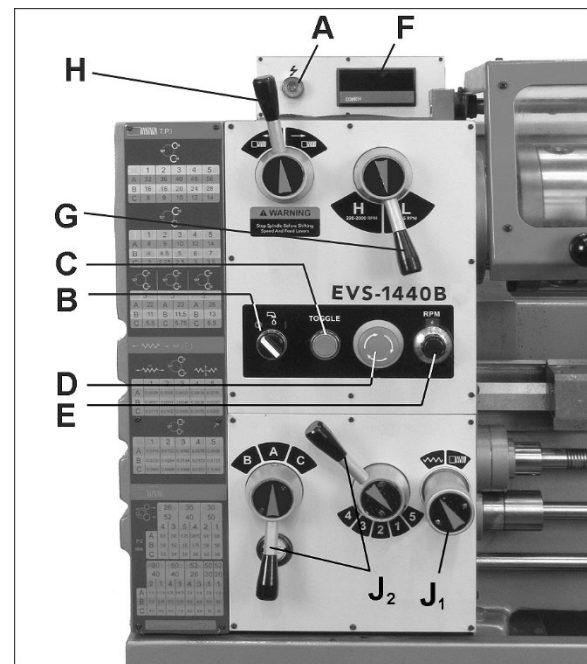

Figure 9-1
Power Indicator Light (A, Figure 9-1). Illuminates whenever lathe is receiving electrical current.
Coolant On-Off Switch (B, Figure 9-1). Activates coolant pump.
Jog/Toggle Button (C, Figure 9-1). Quickly press and release to briefly rotate spindle.
Emergency Stop Button (D, Figure 9-1). Shuts down all machine functions. NOTE: Lathe will still have power. Twist button clockwise to reset.
Variable Speed Dial (E, Figure 9-1). Adjust speed based upon range selected. Dial may be turned while spindle is rotating. Speed is displayed on LED screen (F).
4. **Speed Range Selector (G, Figure 9-1):** Select high or low range.
5. **Feed Direction Lever (H, Figure 9-1):** Select direction of feed. Center position is neutral.
6. **Lead and Feed Selector Levers (J₁/J₂, Figure 9-1):** Used conjunctively to set up for threading or feeding, according to adjoining chart on front of end cover. This chart is also reproduced in sect. 13.0.